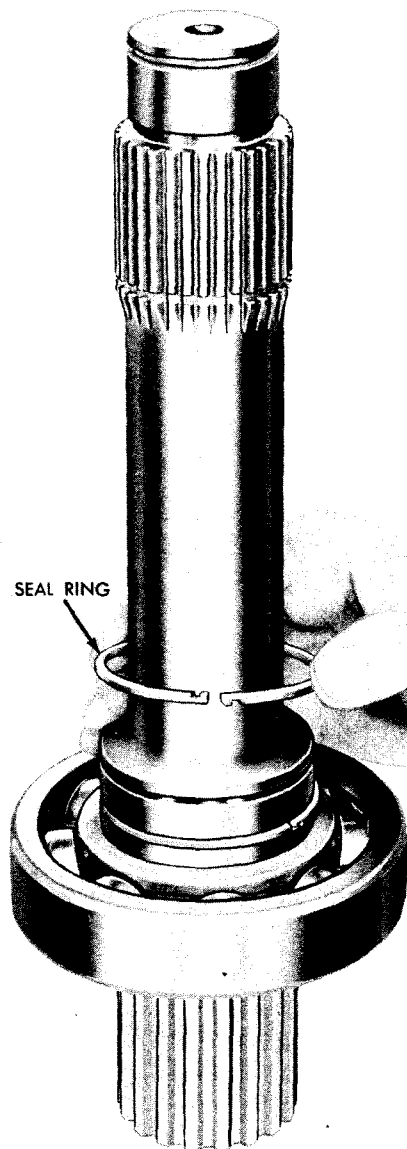

Fig VI-37. Removing (or installing) hook-type seal rings from output shaft
(1) Remove the two hook-type seal rings from the output shaft (fig. VI-37).
(2) Install two hook-type seal rings (fig. VI-37).